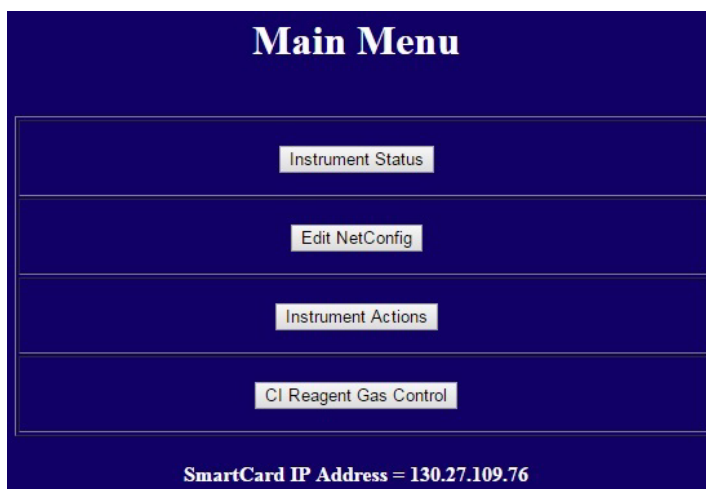

Figure 26. WUI main menu
- 2 Enter the instrument IP address into a PC web browser URL to display the WUI Main Menu page. (See Figure 26.)